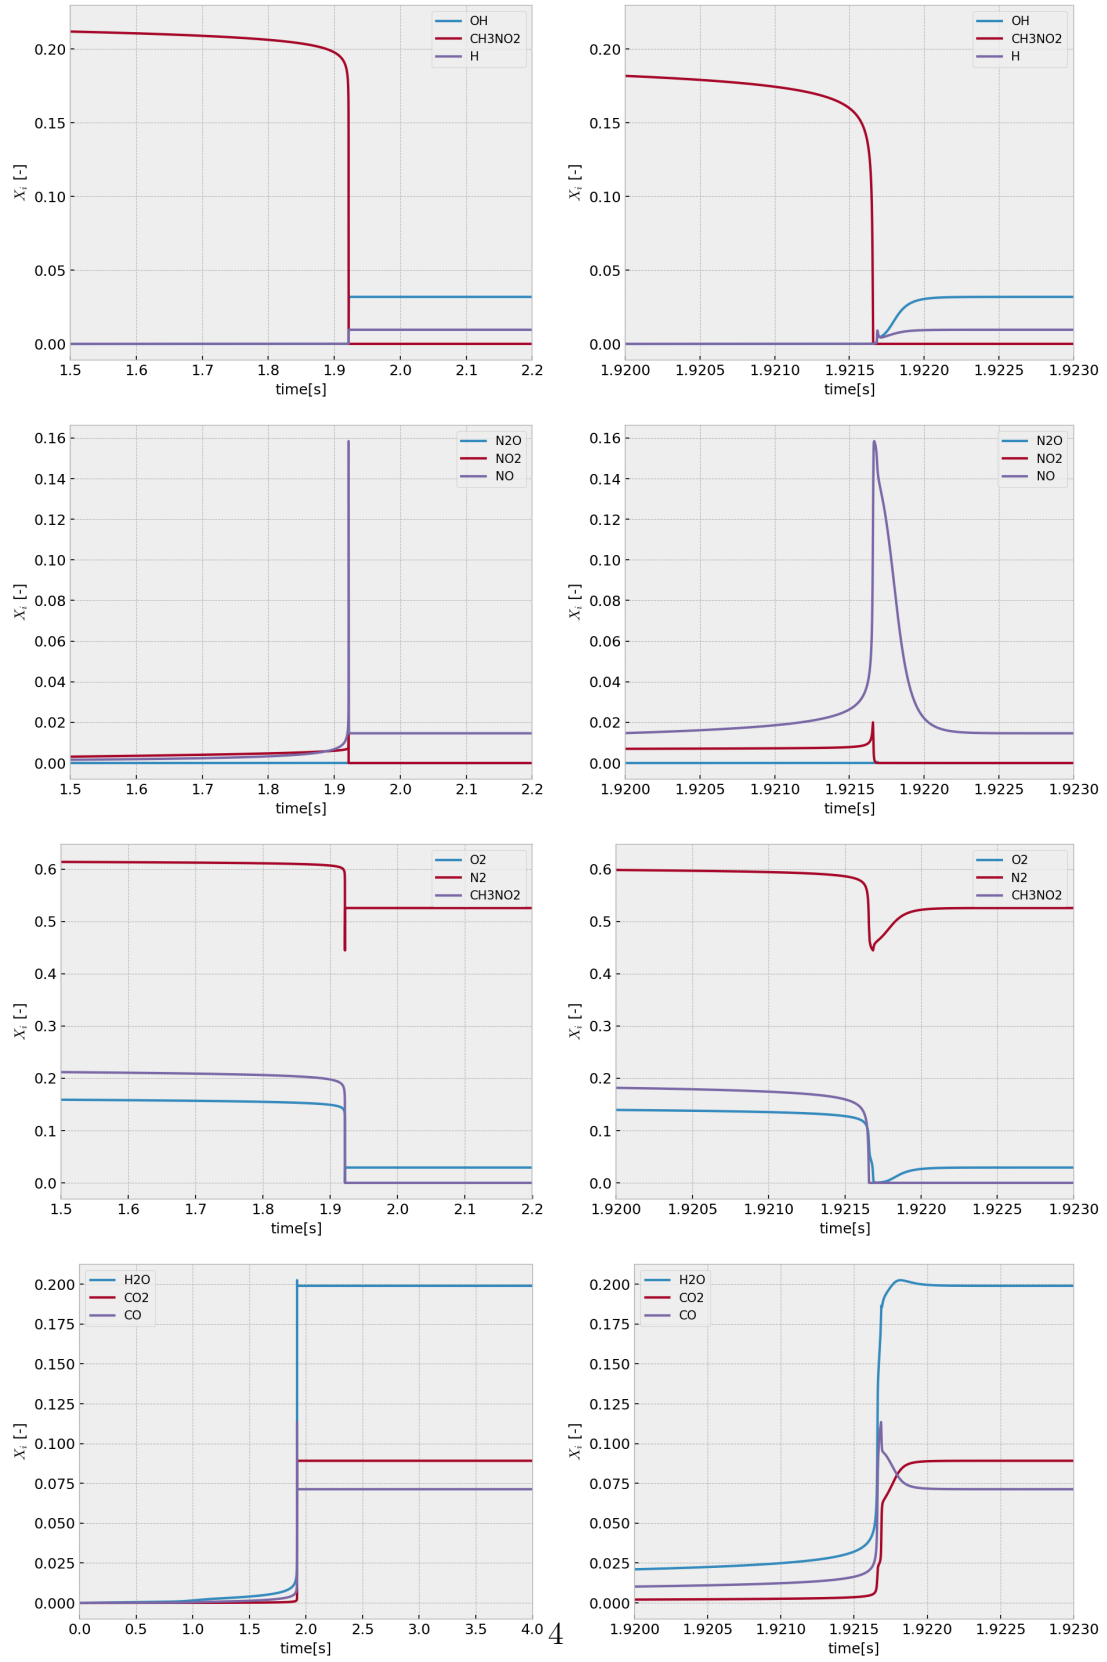

Figure 1.3: Gas composition in the reactor over time. Graphs on the right are stretched on horizontal axis.
*Figure 1.3* shows gas composition during simulation. As can be seen combustion happens almost instantly. When nitromethane is burned, various nitrogen oxides and a significant amount of carbon dioxide are produced. Since the simulation can use 837 different molecules [2], we do not limit the modeled reaction to nitromethanol combustion reaction products only. We can observe in the reactor such compounds as the mentioned nitrogen oxides or carbon monoxide.
As we can see the combustion is proceeding as expected. Maximum pressure and temperature increase as  $\phi$  increases. *Figure 1.3* shows big amounts of nitrogen oxides being involved in the reaction.